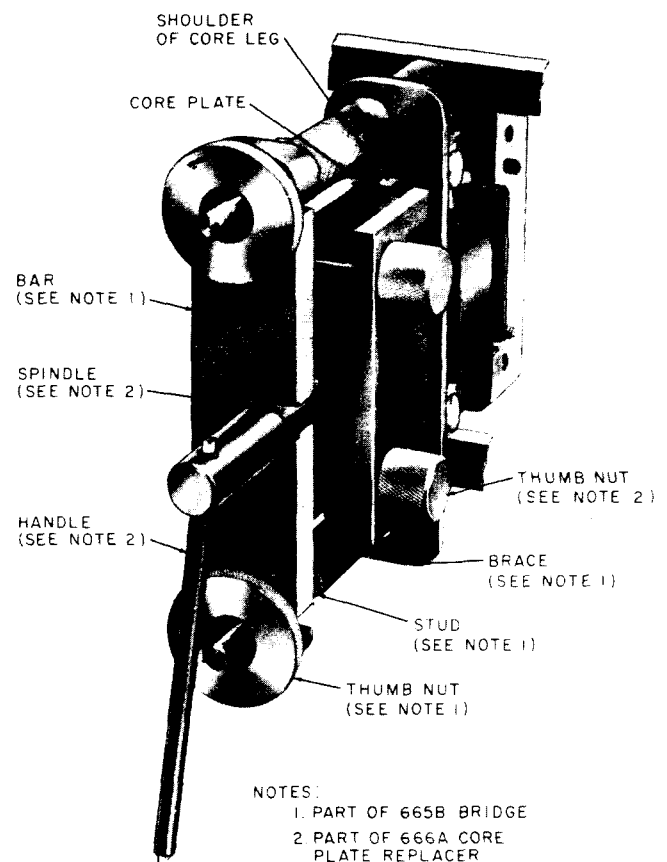

Fig. 9—286-Type Relay Mounting Core Plate
(1) Suspend the brace of the 665B bridge on the longer bridge stud with the longitudinal section of the brace at the right, as shown in Fig. 9. Then partially screw the stud into the upper mounting hole of the relay. Insert the other stud of the bridge through the other hole in the brace. Partially screw this stud into the adapter. Position the brace on the studs so it is in line with the relay card and then tighten both studs. The brace limits the lateral strain on the relay during mounting of the core plate. Position the bar of the bridge on the studs with the end of the bar marked TOP uppermost and the notches of the bar at the right. Securely tighten the thumb nuts against the bar.
(2) Slightly loosen the thumb nuts of the core plate replacer so the core plate which was left in the replacer (3.08) may shift, as required, for proper assembly on the core legs. Hold the replacer with the thumb nuts at the right. Position the replacer on the relay so the slots in the core plate are in line with their associated legs of the core, the armature extends through the outer hole in the core plate, and the spindle of the replacer is in the center notch of the bridge bar as shown in Fig. 9. Turn the spindle of the replacer counterclockwise until the core plate butts on the shoulders of the top and bottom core legs.